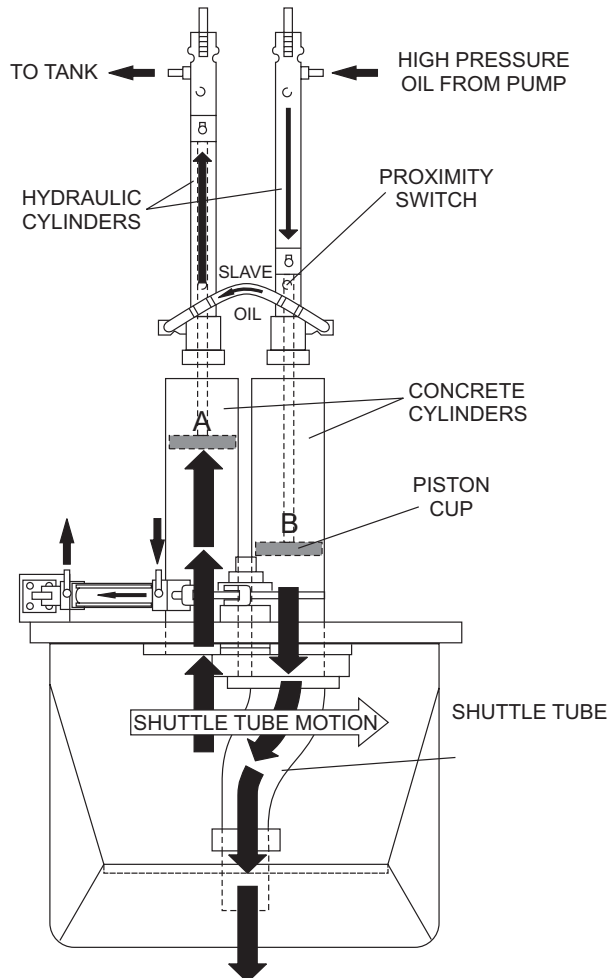

Figure 4. Pumping Cycle 1
In the first cycle, hydraulic pressure is applied to cylinder (B), causing the hydraulic piston, which is connected to the concrete piston and piston cup, to discharge concrete into the delivery line (Figure 4).